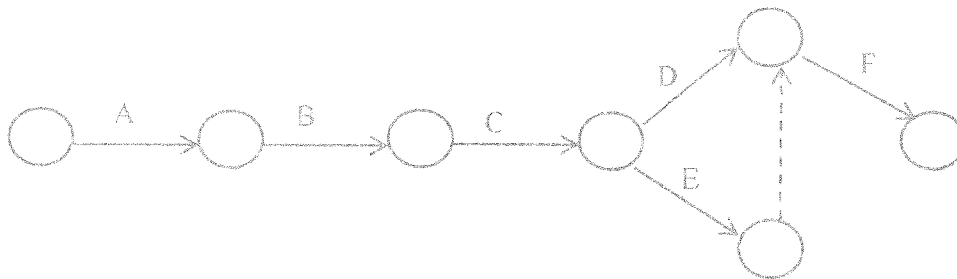

Figure Q4: Network Diagram for the LOB Schedule
- c) Figure Q4 shows a construction plan where Line of Balance (LOB) schedule is to be prepared. Table Q4 (a) gives other planning data for the LOB schedule. Buffer time is taken as two days.
- i Draw the LOB diagram to represent the information available in Figure Q4 and Table Q4 (a) (Use the graph sheet provided).